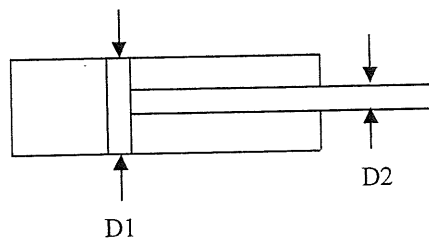

Figure 1
- ii. Describe six (6) characteristic that effects air flow in pneumatic system. (6 marks)
- c) Complete the Table 1 by calculating extend and retract forces, if diameters D1 is 1.5 inch and D2 is 0.625 inch. Please refer to Figure 1 and your calculations for each extend and retract forces should be shown.